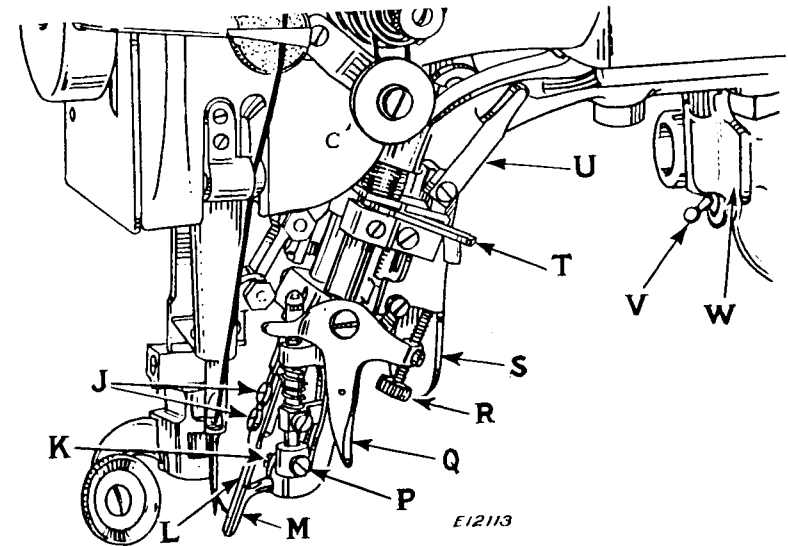

Fig. 21. Adjustments on the Trimmer
The trimmer motor is started or stopped by means of the toggle switch (V, Fig. 21) on the motor. It is advisable to start the motor with the trimmer knife thrown out of action, but the motor should not be allowed to run for long periods when the trimmer is not in use.
To throw the knife **out of action**, press the lever (W, Fig. 21) to the left. To throw the knife **into action**, move the handle (S, Fig. 21) to the right.
The knife (L, Fig. 21) is held obliquely in the correct position for cutting the linings smoothly and rapidly from under the bead edge of the uppers, and may be thrown into or out of action as desired, while the stitching is in progress.
The purpose of the edge guide finger (M, Fig. 21) is to keep the edge of the shoe upper out of range of the trimming knife, thus preventing the knife from cutting the edge of the upper while the stitching and trimming is in progress. When in proper adjustment the edge guide finger should be slightly to the left of the knife (L). The sidewise adjustment of the edge guide finger is obtained by loosening the screw (K, Fig. 21) and moving the guide finger holder to the right or left as may be required, after
which the screw (K) should be firmly tightened. The back edge of the guide finger should stand as close to the knife as possible without striking it; this adjustment is obtained by loosening the screw (P, Fig. 21) and moving the guide finger backward or forward as may be required. The guide finger should be adjusted to a height that will permit the facing or lining to pass freely under it to the knife while protecting the edge of the upper from injury. The guide finger can be adjusted to the correct height by means of the screw (R, Fig. 21). If the guide finger should run under or catch the lining, the guide finger holder should be slightly raised. To hold the guide finger out of action, hang up the guide finger bar by means of the latch (U, Fig. 21).
When crossing heel seams, it is sometimes desirable to slightly raise the edge guide finger (M, Fig. 21). To do this, press the lever (Q, Fig. 21) to the left and hold it in this position until the seam is crossed.
When it is desired to use the edge guide (M) with the knife out of action, move the lever (T, Fig. 21) to the left. When it is desired to automatically raise the edge guide finger with the knife, move the lever (T) to the right when the knife is down.
When it is necessary to resharpen the knife (L, Fig. 21), loosen the two screws which fasten the knife to the knife holder and remove the knife. Knife grinder 207032 should be used to sharpen the knife. As one grinder can be used for several machines, it should be ordered separately.
The knife can be adjusted to the correct height by loosening the two screws (J, Fig. 21) and moving the knife (L, Fig. 21) up or down on the knife holder, after which the two screws (J) should be securely tightened.